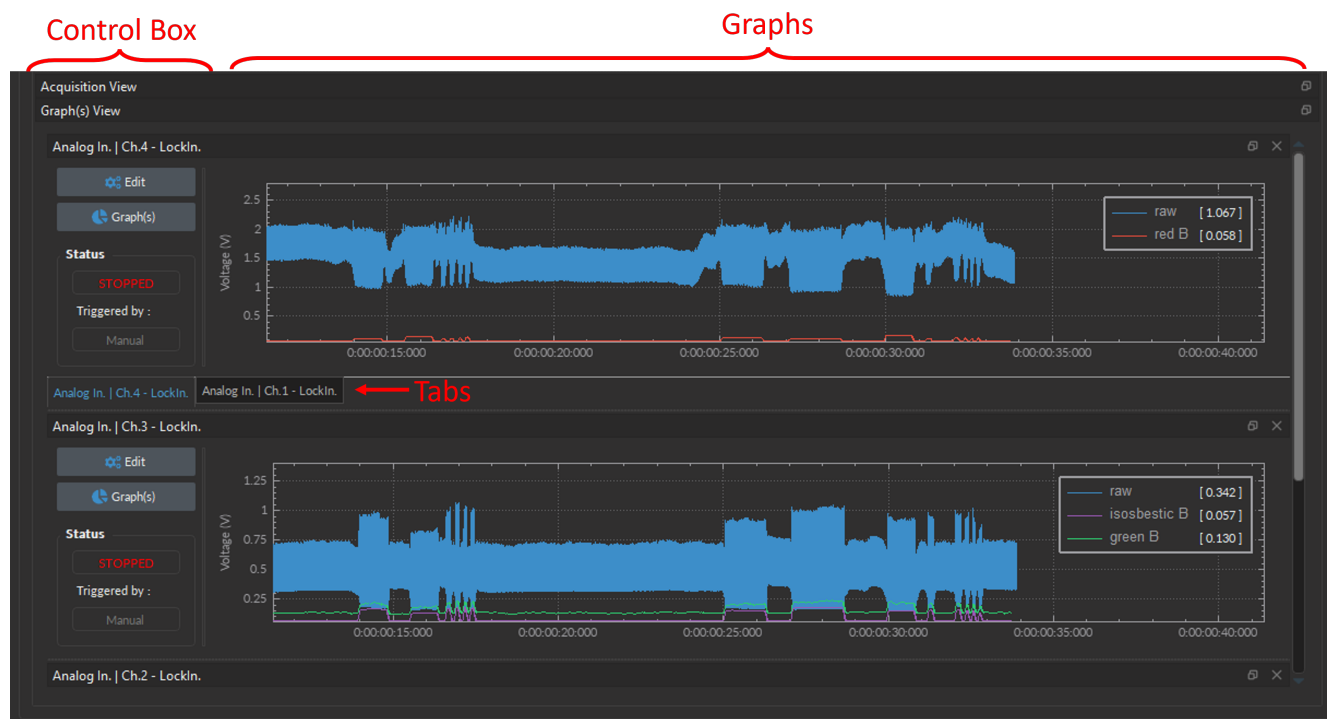
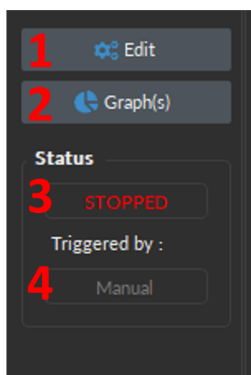

Figure 5.44: Acquisition View Interface
Figure 5.45: Control Box
The **Acquisition View** displays all the information concerning active channels: **Control box** (Fig.5.44) and the **Graphs** (Fig.5.45).
Each channel **Control box** shows the following basic elements (Fig.5.45), with additional elements available for specific channel types:
1. The **Channel Name** (Fig. 5.45, 1) is located on the upper left of the **Control box**, identifying the type of channel and its number, corresponding to that on the console. This name can be modified in the **Graph options** window (Fig. 9.36).
- The **Edit** button (Fig. 5.45, 2) opens the **Channel Configuration** window, where channel parameters can be modified (See section 5.4.1).
- The **Status** bar (Fig. 5.45, 4) displays acquisition status. **STOPPED** is displayed when the acquisition is inactive, and **STARTED** when acquisition is active.
- The **Triggered by:** (Fig. 5.45, 5) text-box displays the source of the trigger for that channel, which can either be Manual (i.e. selecting the **Record/Live** button) or a specific channel that provides external trigger signal.
- The **Channel tabs** (Fig. 5.44, Tabs) appear in certain input modes (such as **Interleaved** and **Lock-in**) where the input automatically sets the output values on separate channels. It is possible to create a **Channel tab** by undocking one channel and moving it above another until it turns blue, then releasing it.